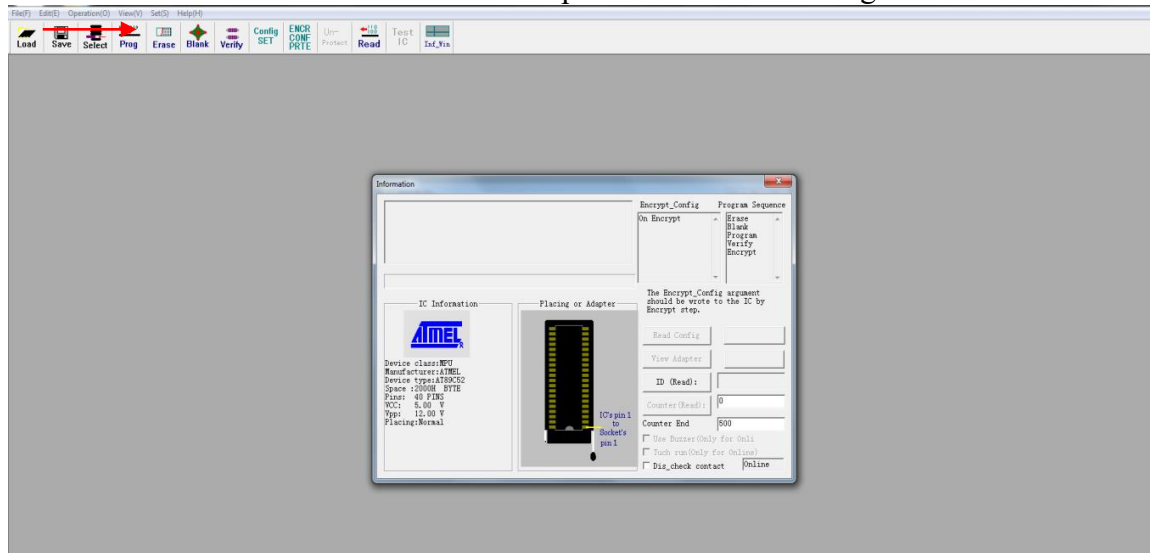

Figure 1.2 Click on LOAD icon
I. Click on the “LOAD” icon in the top bar as shown in the figure 1.2 below: